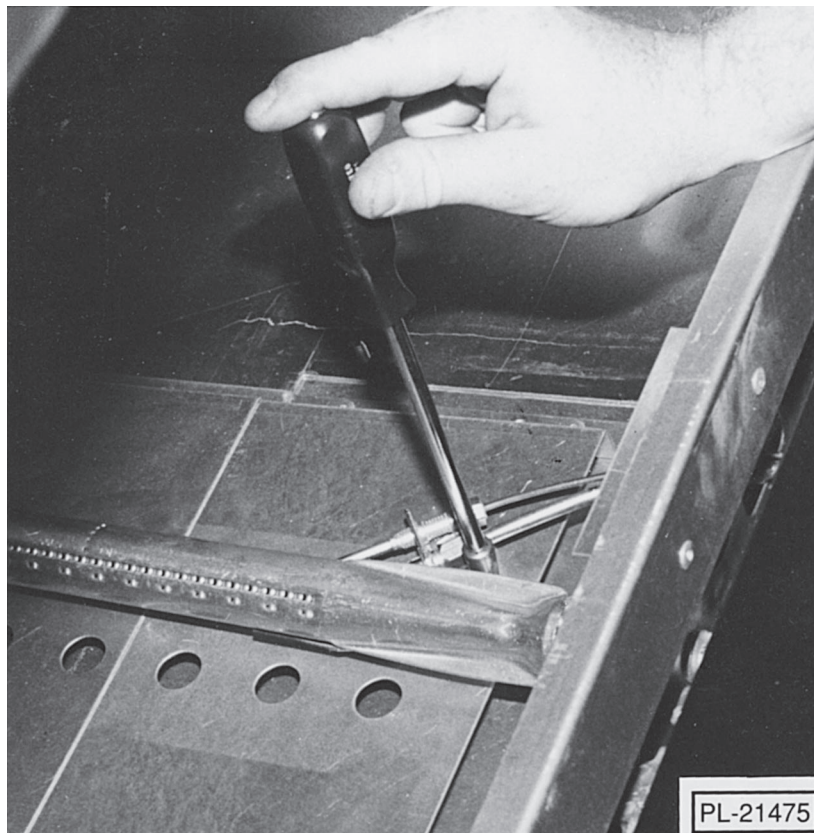

Fig. 45
3. Remove (2) #8 sheet metal screws securing burner to pilot bracket (Fig. 45).